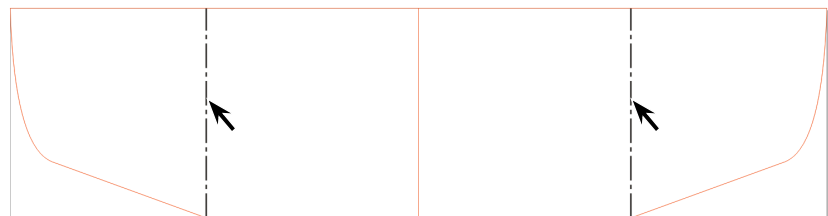

Fig. 38
Step 5. **Shift click both bend lines** and change to **Black 1/2 Stroke**, **Fig. 38**.